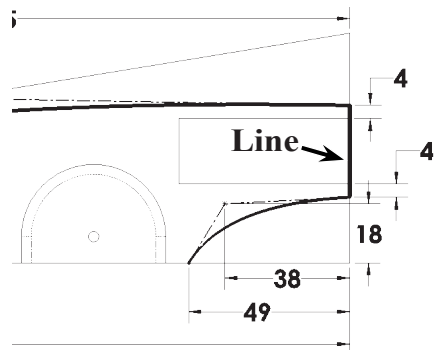

Fig. 26
Step 13. Click **Line**  (L) on the Sketch toolbar.
Step 14. Sketch a line to **connect the ends of the splines**, **Fig. 26**.